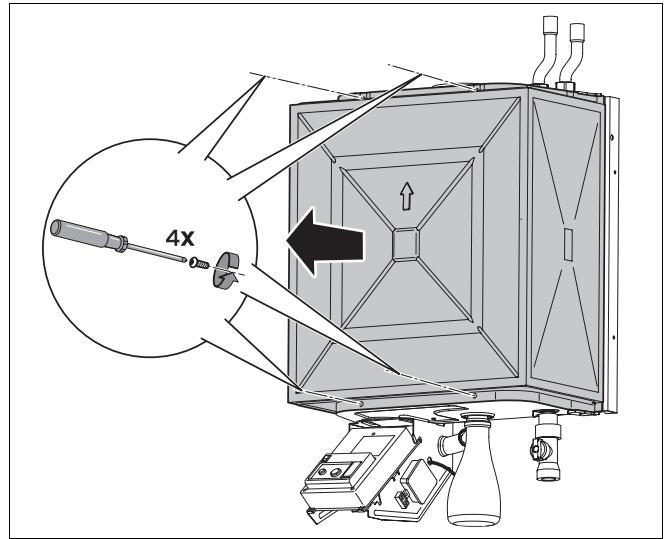

Fig. 17 Unscrew ventilation cover
- Loosen the 4 crosshead screws on the ventilation cover (fig. 17).